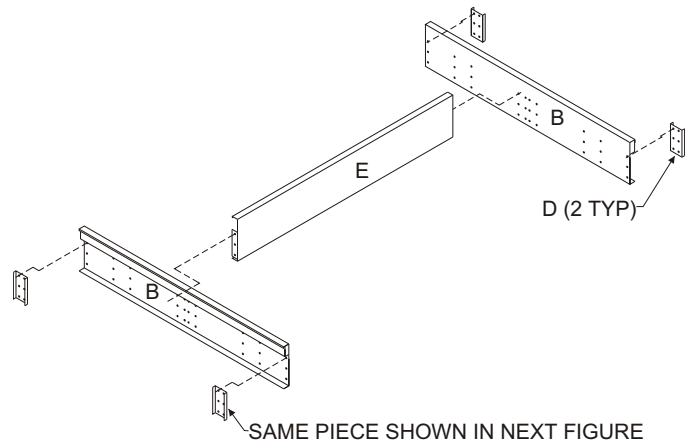

Figure 3
6. Install the $\frac{3}{8}$ " bolts on both ends of Brace Panel (E) through the designated holes in Side Panels (B). Make sure the corners are flush and square as shown in Figure 3. Tighten the hardware securely.